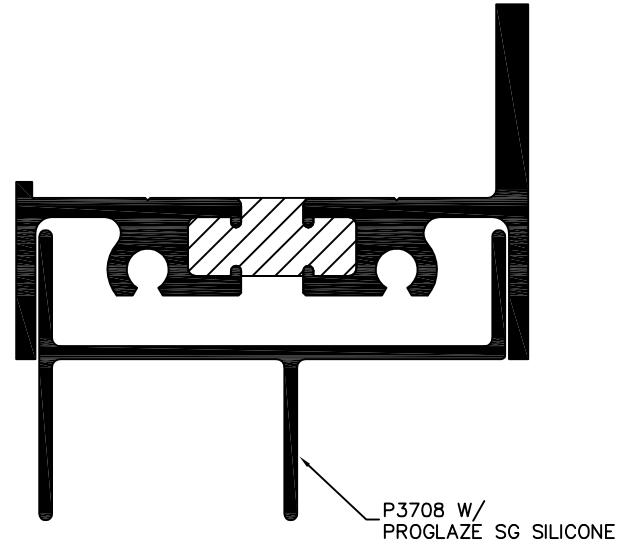

FIGURE 1
1. APPLY ADAPTER P3708 TO HEAD, SILL AND JAMBS USING PROGLAZE SG SILICONE PER FIGURE 1.